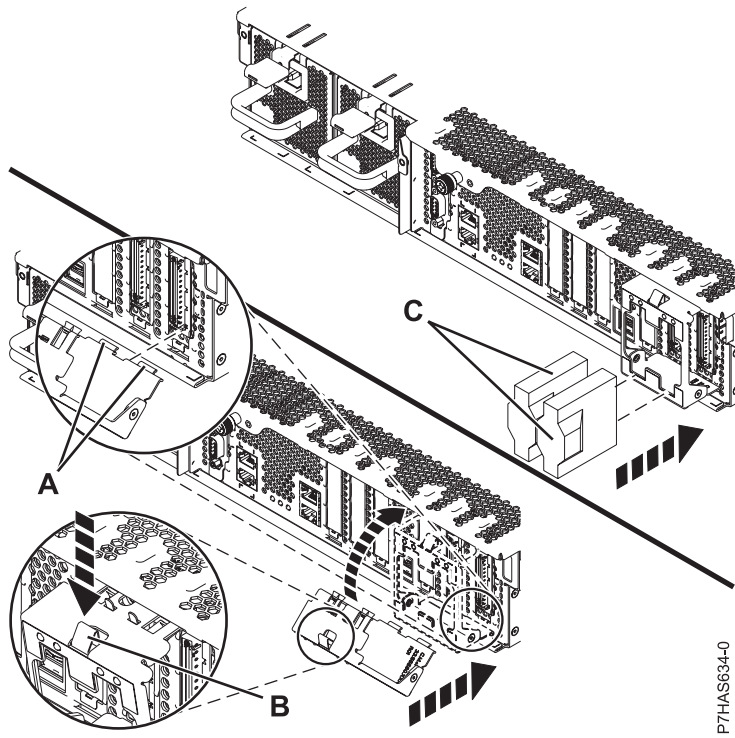

Figure 10. Replacing the cable retention bracket
8. If the cable retention bracket, shown in Figure 10 on page 12 is provided, complete the following steps:
- a. Tilt the cable retention bracket (**A**), shown in Figure 10 on page 12, to hook the tab at the bottom of the bracket into the slot in the assembly.